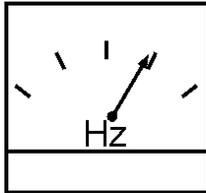

Figure 47. Frequency Meter
- The generator's frequency meter (Figure 47) should be displaying the 50 cycle output frequency in **HERTZ**.